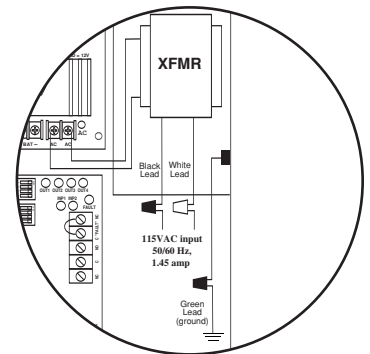

Fig. 1
2. Connect green lead to earth ground (*Fig 1*).